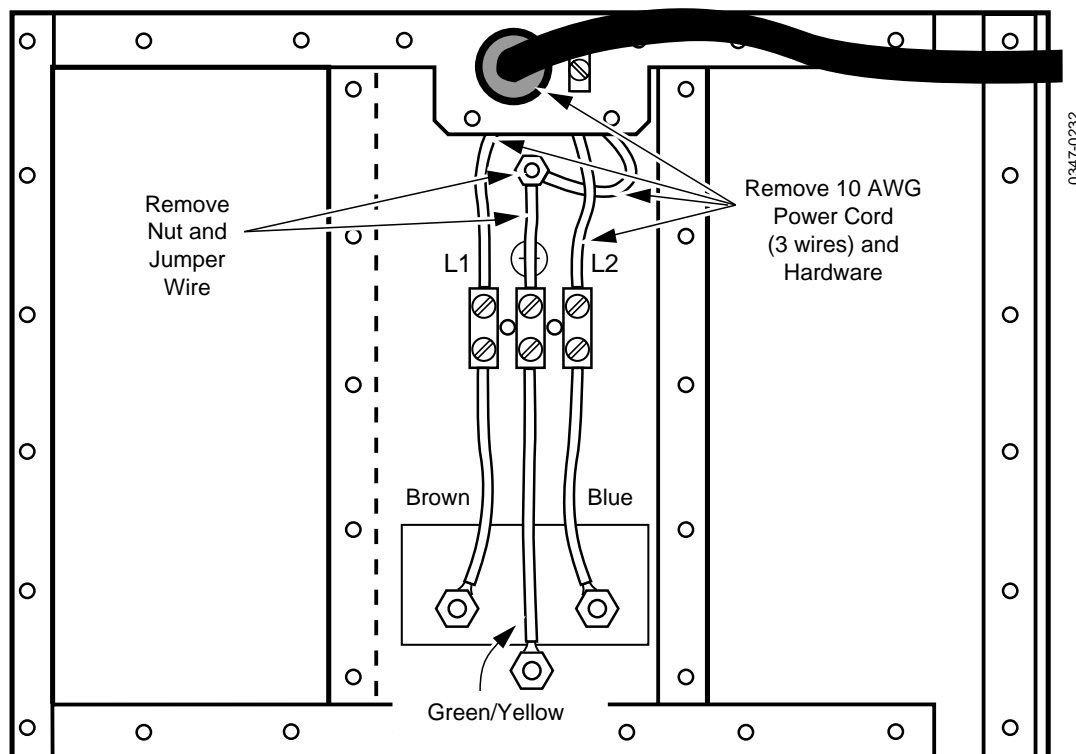

Figure 2-15. For 110 Vac Operation – Remove 220 Vac Wiring
3. In the center section, disconnect the incoming AC power wires from the left and right sides of the terminal block (see Figure 2-15).